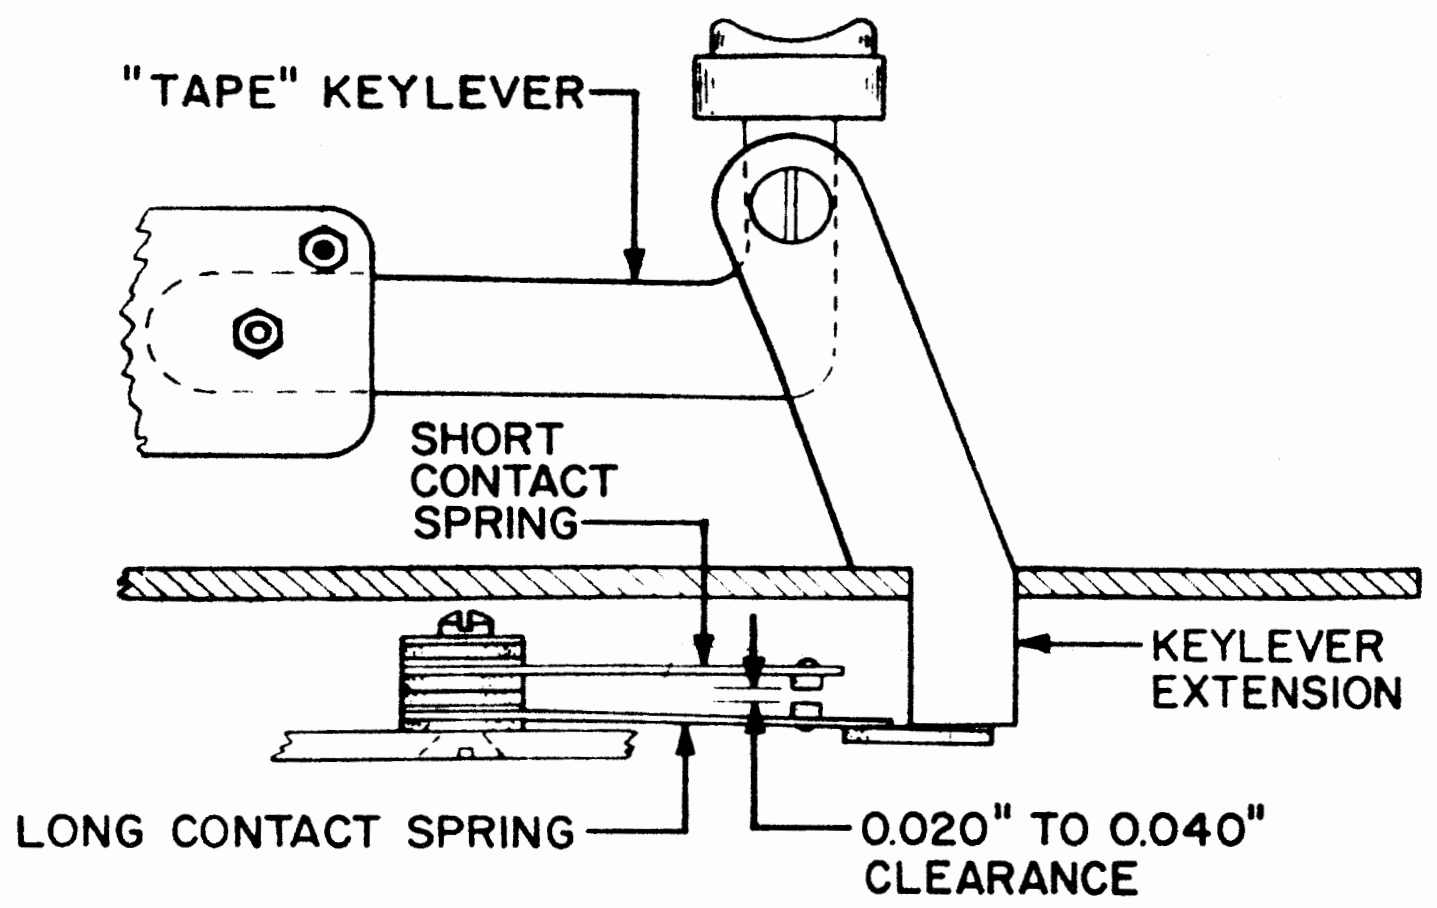

Figure 58
- (1) There should be minimum 0.020 inch, maximum 0.040 inch clearance between contacts when the tape keylever is completely depressed and the long contact spring is in contact with the bottom of the key line extension. See Figure 58.